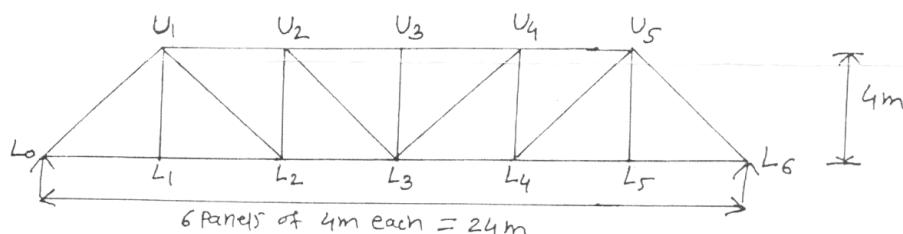

Fig. 2
- b) Draw the influence line diagrams for forces in the member U_2L_3 , U_2U_3 and L_2L_3 of the through type bridge truss as shown in fig.2. [8]